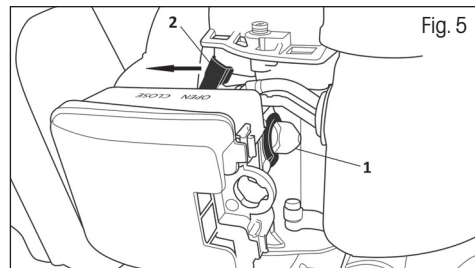

Fig. 5
2. Press the fuel primer bulb (Fig. 5, point 1) several times.
3. Set the choke lever to the CLOSE position (see Fig. 5, point 2)
4. At this point, set the choke lever back to the OPEN position (Fig. 5) and start the engine by repeatedly pulling on the starting cord.